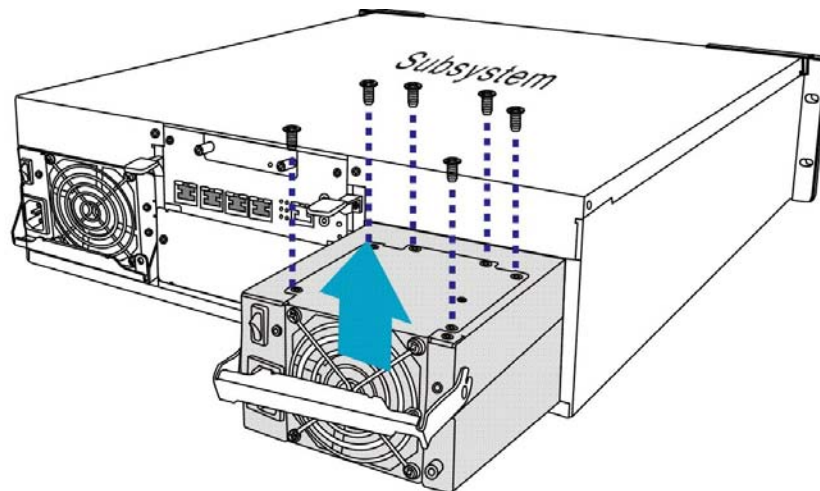

Figure 5-12: Removing a Cooling Module
Step 2. **Use a medium-size Phillips screwdriver to remove the six screws from the top of the PSU module.** (See **Figure 5-12: Removing a Cooling Module**)